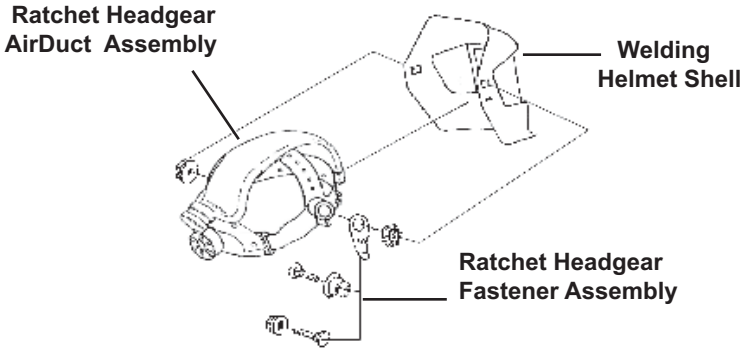

FIGURE 7
- Install the new airduct headgear assembly (See Figure 7).